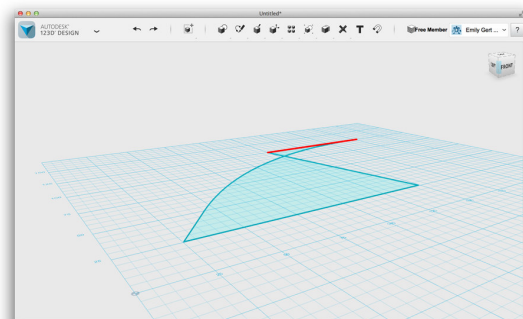

Figure 4-80 The line to be trimmed turns red
3. Hover over the overlapping line or lines you want to trim, and you'll see them turn red (Figure 4-80).